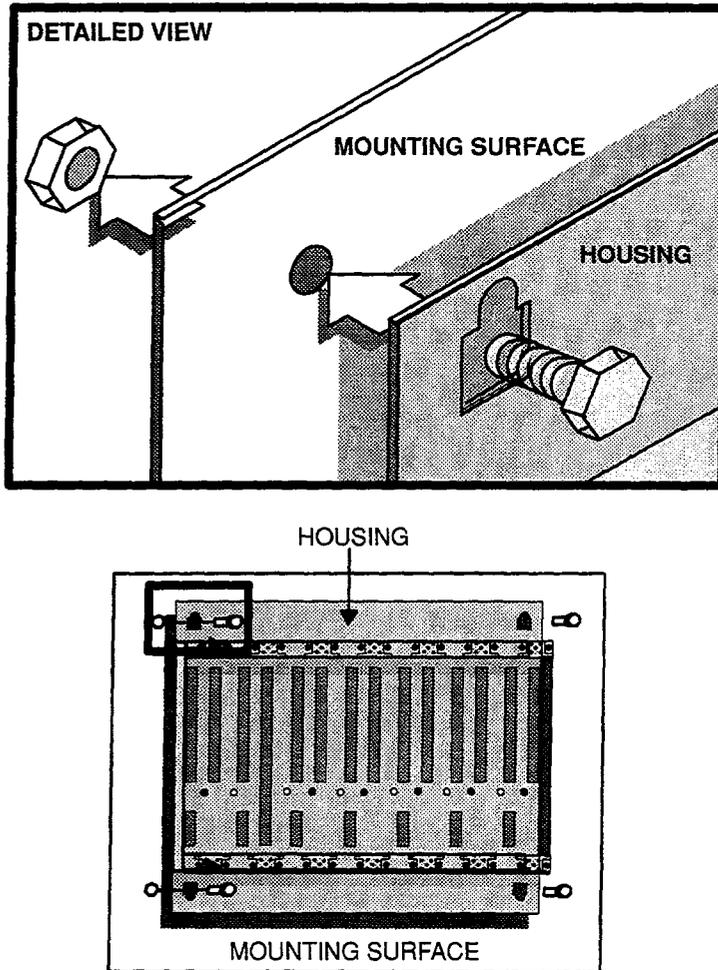

Figure 27 Attach Housing to Mounting Surface
- Step 4** As shown in Figure 27, attach the primary housing to its mounting surface by inserting the required number of 1/4-inch bolts. (H819 requires four bolts in the housing's mounting flange.) Also install cable troughs for your Remote I/O module slots.